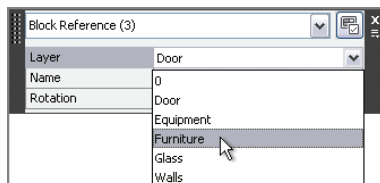

FIGURE 7.17 Assigning the Furniture layer to the chair block references
2. Click on each of the three chair block references to select them. Type **qp** (for Quick Properties), and press Enter. Select Furniture from the Layer drop-down menu (see Figure 7.17). Notice that the chairs are still green, even though the Furniture layer is blue. Click the Close box in the upper-right corner to close the Quick Properties palette, and press Esc to deselect.